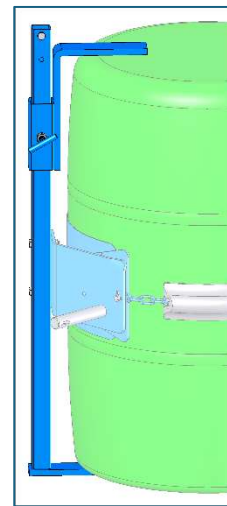

Figure 2.1
- Bracket Assembly Kit # 4556-P** is **required** to handle a RIMLESS plastic drum (figure 2.1), and is also recommended for a fiber drum. The Bracket adjusts for a 31" to 39" (79 to 99 cm) tall drum. You can also handle a rimmed drum with the Bracket installed.